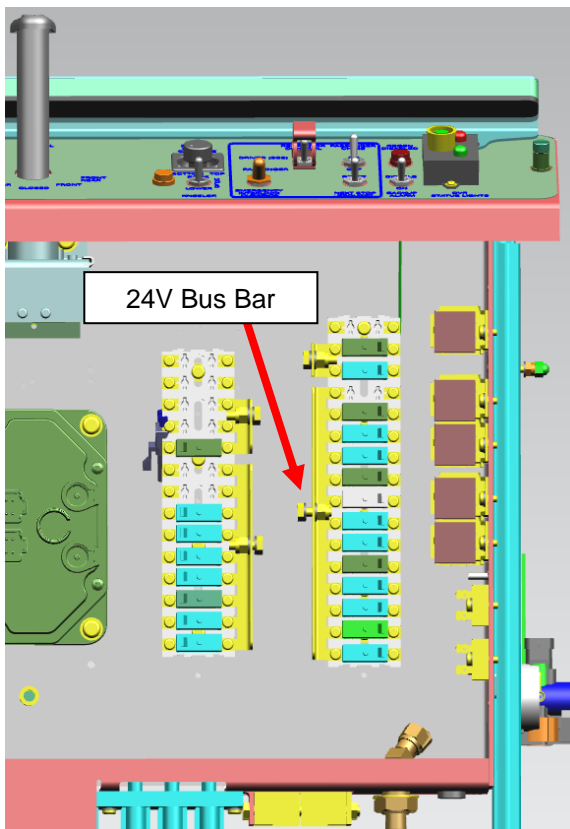

Figure 15 – Side Console (24VBAT)
- b. To test the ultracapacitor delay relay, the bus batteries will need to be below 24V. Use a multimeter to check voltage of the 24V system on the 24VBAT Bus Bar in the Side Console and assure the battery voltage is below 24V. Turn on bus lights to drain battery below 24V, if necessary. See location of 24VBAT in Figure 15.